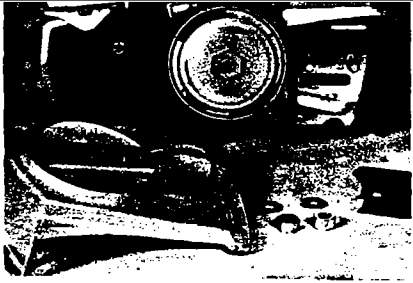

Figure 1
1. Remove the bar mounting nuts, washers, bar clamp and outer guide bar plate. (Note position of the plate.) Figure 1